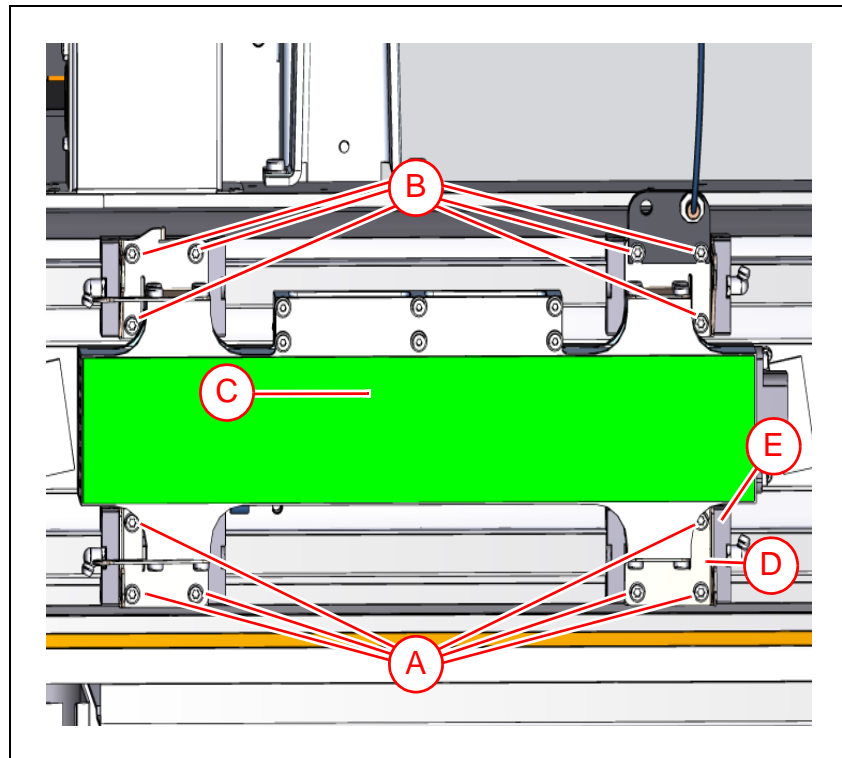

Figure 5-18. Removing the heat sink unit.
5. Choose to remove a magnetic strip where it will be easy to get access to the screws that attaches the flexible brackets ('D' in Figure 5-18) to the linear guides ('E'). Use a magnet cover (L-050-0073 available from MYDATA) to cover the magnetic strip. For details see section Removing and Installing the Magnetic Strips on page 5-25.